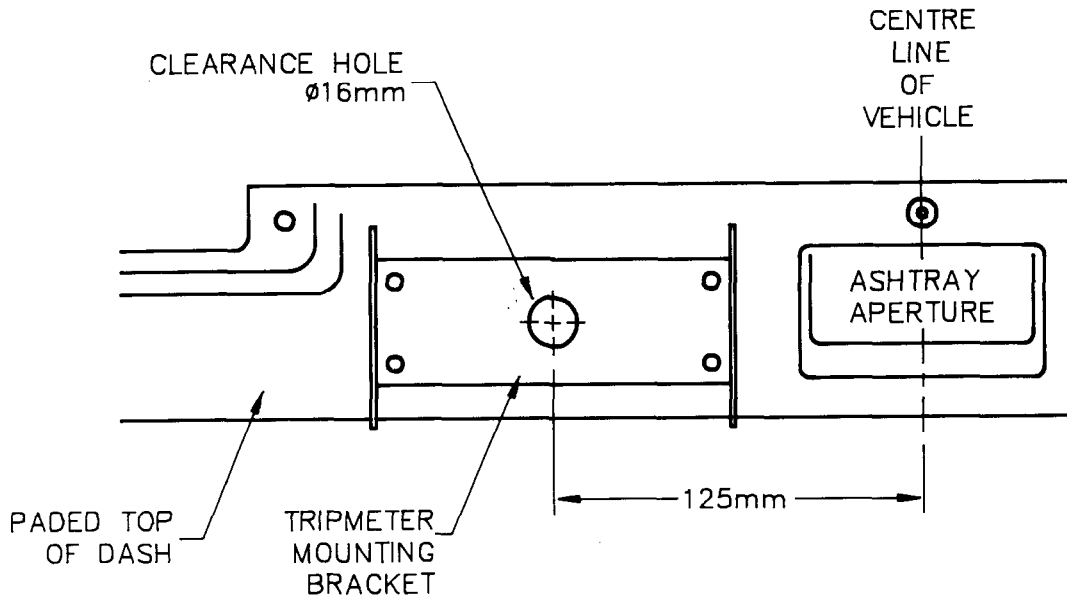

Figure 6 - Location of Tripmeter Bracket
- bh. Locate the tripmeter bracket on the top surface of the pad as shown in Figure 6.
- bi. Drill 16 mm clearance hole and four mounting holes (3.5 mm) using the bracket as a template, as shown in Figure 6.